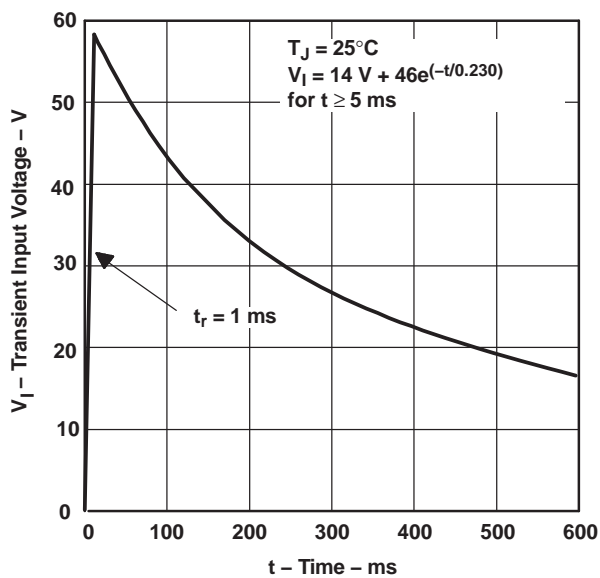

Figure 4.
(1) Pulse-testing techniques maintain the junction temperature as close to the ambient temperature as possible. Thermal effects must be taken into account separately. All characteristics are measured with a 0.1- μF capacitor across the input and a 10- μF tantalum capacitor on the output, with equivalent series resistance within the guidelines shown in Figure 4.
(2) Measured when the output voltage, V_O , has dropped 100 mV from the nominal value obtained at $V_I = 14\text{ V}$.
- (1) Pulse-testing techniques maintain the junction temperature as close to the ambient temperature as possible. Thermal effects must be taken into account separately. All characteristics are measured with a 0.1- μF capacitor across the input and a 10- μF tantalum capacitor on the output, with equivalent series resistance within the guidelines shown in Figure 4.
- (2) Measured when the output voltage, V_O , has dropped 100 mV from the nominal value obtained at $V_I = 14\text{ V}$.